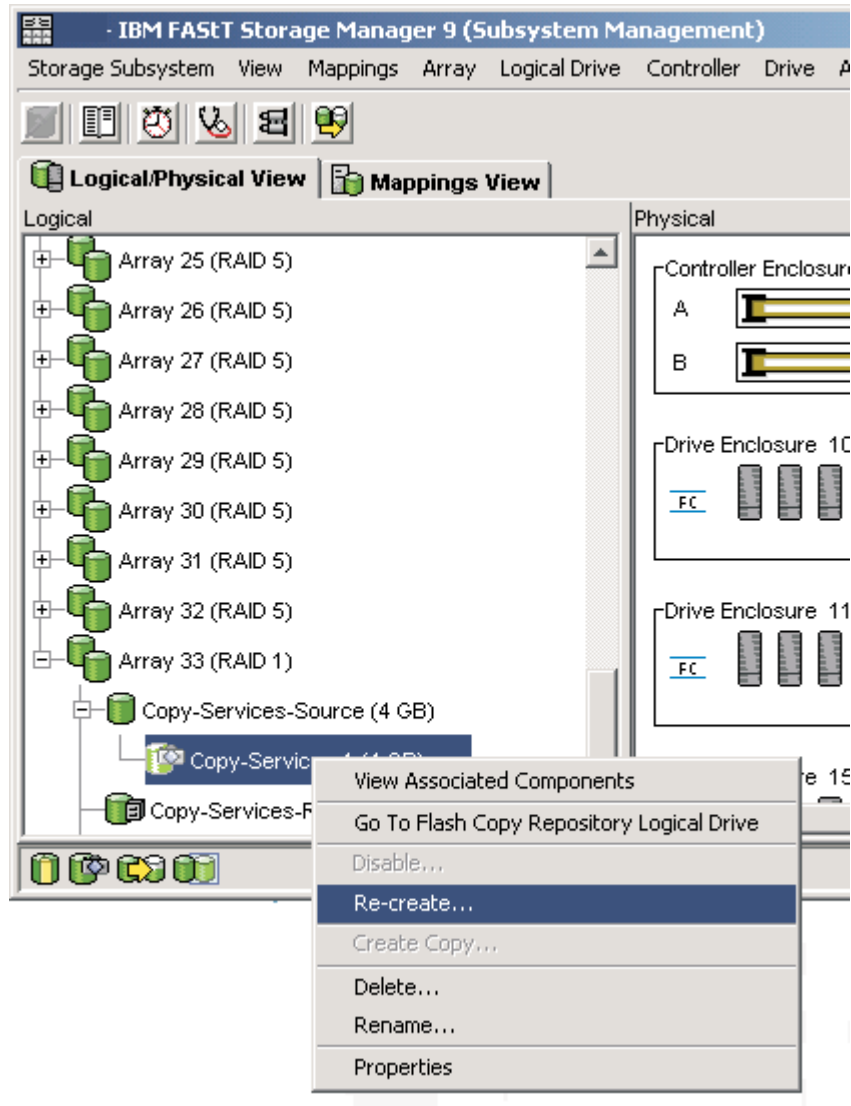

Figure 18. Recreating a FlashCopy logical drive
1. Select the FlashCopy logical drive. Right-click and select **Re-Create**, as shown in Figure 18 on page 51.